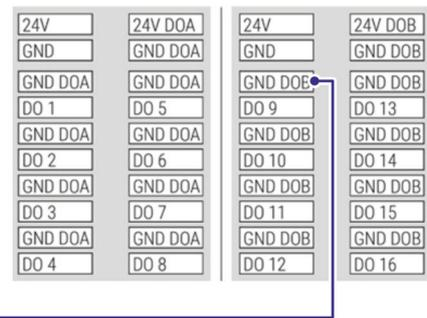

Fig. 78 Connecting an analogue sensor via analogue input (example)
01. When connecting an analogue sensor via the analogue input, note the example configuration in Fig. 78.